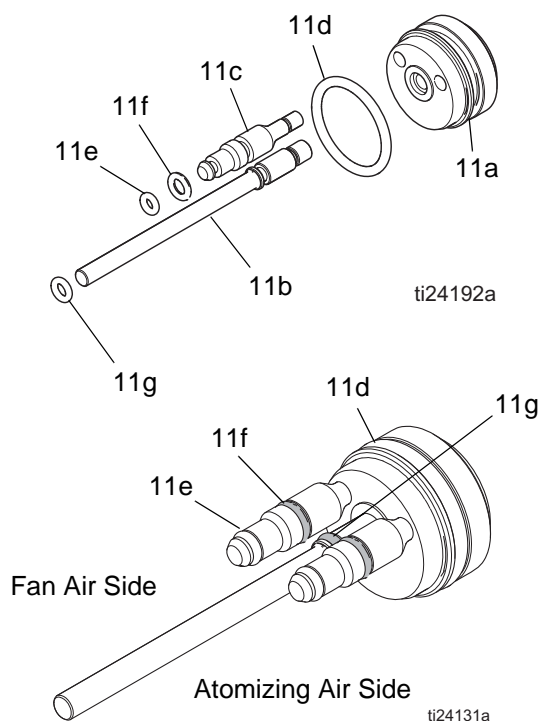

FIG. 32 . Piston O-Rings
4. Remove piston cap (13) from the rear of the gun.
5. Push on the piston rod (11) to push the piston out the back of the gun.
6. Inspect the o-rings (11d, 11e, 11f, 11g) for damage. See Table 3 and FIGURE 32.